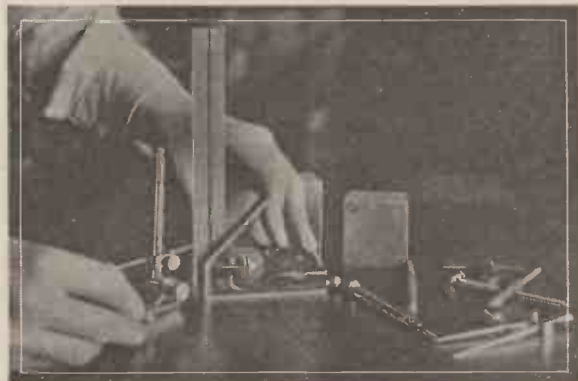

Fig. 1.—An efficient type of scribing block and universal square.
▶ The essential tools are a surface gauge or scribing block, a good stiff steel rule, small dividers, square, scriber and a centre punch. A small angle bracket is useful under certain conditions when one or two clamps will also be required for use in conjunction with it. A simple form of scribing block consists of a reasonably heavy circular base, the underside of which is machined and recessed so that it will lay flat without rocking, and capable of sliding freely on a flat surface. This base supports a vertical spindle upon which slides a split boss carrying a scribing needle, the needle being locked by the action of tightening a knurled nut. The setting of the point of the scriber is dependent on trial and error or lightly tapping the scriber, when only held friction tight, in the desired up or down direction. A scribing block of the type shown in Fig. 1 is much more desirable for fine work. The spindle of this is connected to a rocker bar which has a screw adjustment at the rear end. After setting the point of the scriber approximately and locking it tight it is corrected by tilting the bar to raise or lower the point by means of the knurled adjusting screw. It is necessary to have a flat surface on which to rest the work while marking off. Failing a proper machined surface plate, a square of plate glass makes an efficient substitute for light work.
cally against the face of an angle bracket or square block so that the end of the rule is touching the surface plate. The point of the scriber is then adjusted against the markings on the rule to the first dimension and the job to be marked is laid down on the machined edge and a line made on the face of the work. Fig. 1 shows the method of setting the